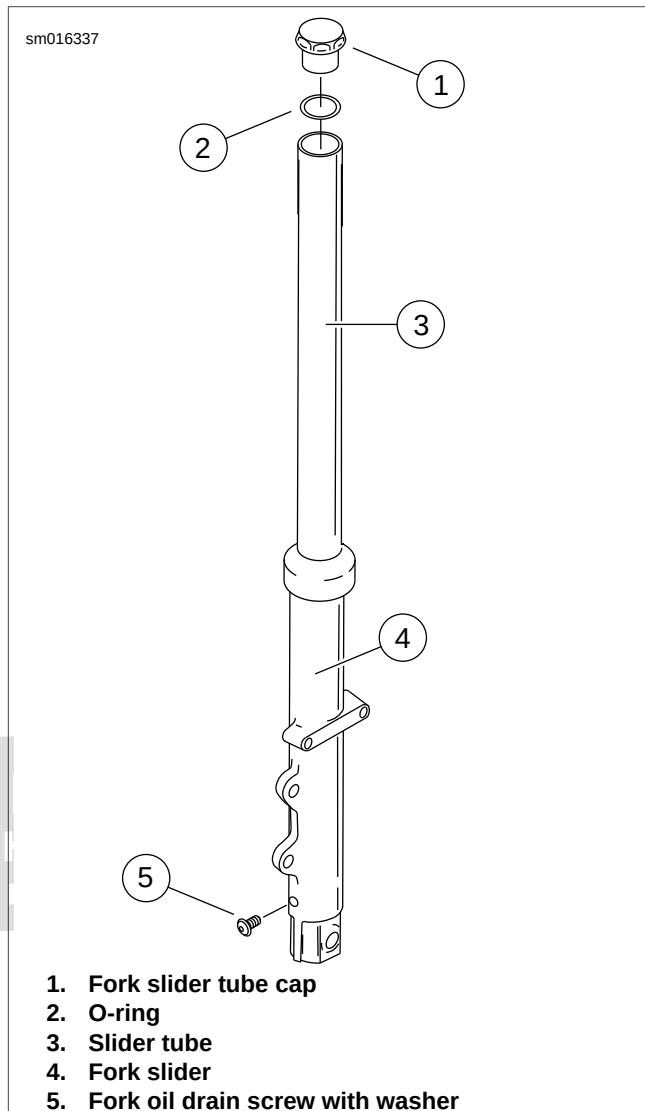

Figure 1-78. Draining Front Fork Oil
2. Place a drain pan under bottom of right fork slider. See Figure 1-78. Remove drain screw and washer (5) from bottom of one slider (4).
2. See Figure 1-78. Remove fork slider tube cap (1) with o-ring (2) from each slider tube (3). Replace the o-ring if damaged or worn.